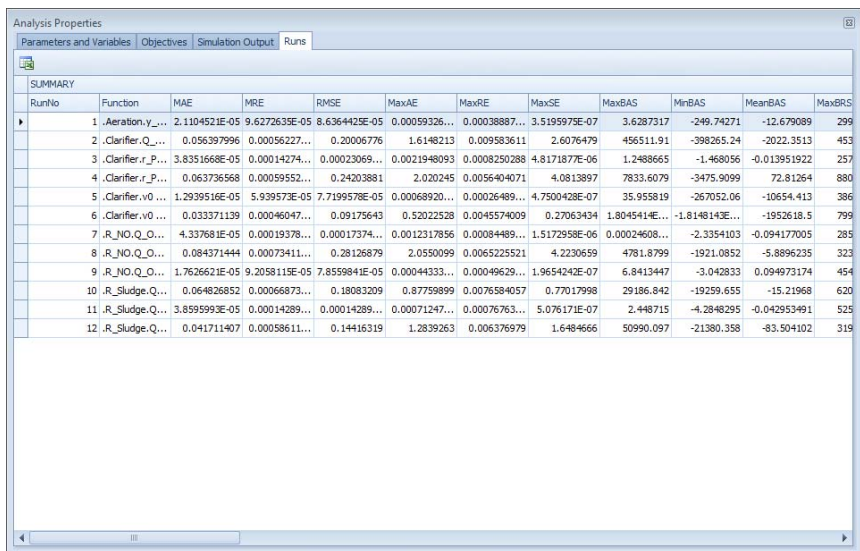

Figure 8.5 Runs tab page and results for the Local Sensitivity Analysis experiment
- The output of the LSA experiment is shown in Figure 8.5 and Figure 8.6